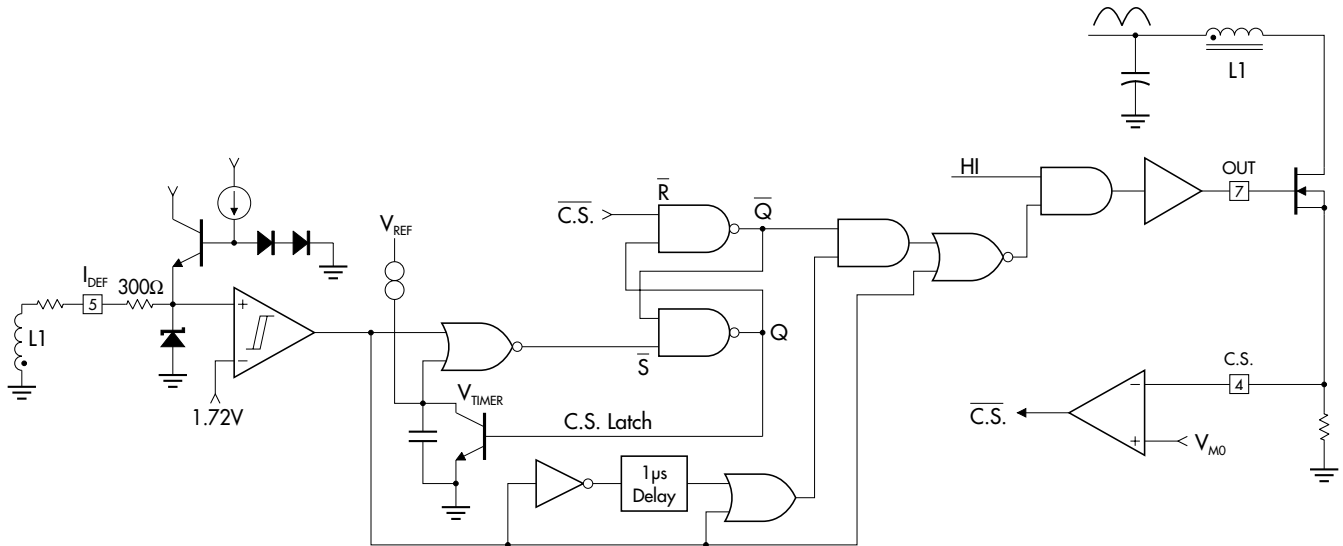

FIGURE 30 — START-UP TIMER & CURRENT DETECT LOGIC CIRCUITRY
The function of "current detect logic" is to sense the operating state of the boost inductor and to enable the output driver accordingly. To achieve this, the downward slope of the inductor current is indirectly detected by monitoring the voltage across a separate winding and connecting it to the detector input " $I_{DET}$ " pin. Once the inductor current reaches ground level, the voltage across the winding reverses polarity and changes the " $I_{DET}$ " input and the comparator output to the low state (See Figure 30). When comparator changes state, it sets the latch and turns on the output driver for a period of 1µs (typ.) regardless of any changes in the latch output ( $\bar{Q}$ ) within this period. This ensures that if the C.S. comparator changes state due to any turn-on spike, the driver output remains on and does not turn off prematurely.
A start-up timer circuit eliminates the need for an external oscillator when used in stand alone applications. The timer, as shown in Figure 30, provides a means to automatically start the pre converter if the latch output  $\bar{Q}$  comes up in a wrong (HI) state. The timer capacitor ramps up and resets the latch to a low state, turning the output driver on.